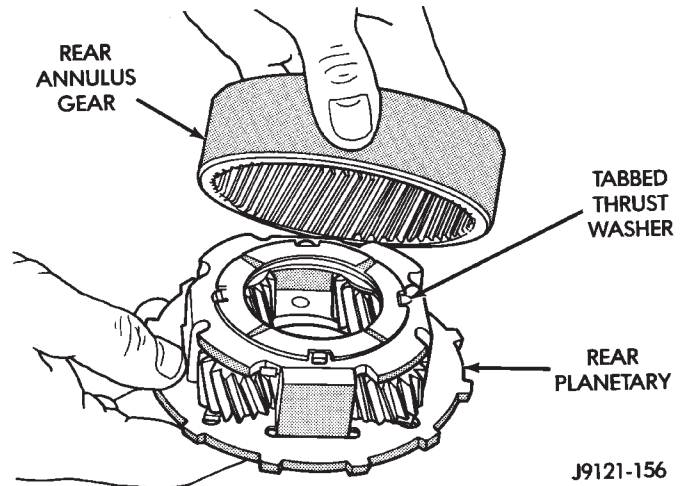

Fig. 85 Assembling Rear Annulus And Planetary Gear
(1) Lubricate output shaft and planetary components with transmission fluid. Use petroleum jelly to lubricate and hold thrust washers and plates in position.
(2) Assemble rear annulus gear and support if disassembled. Be sure support snap ring is seated and that shoulder-side of support faces rearward (Fig. 85).
(4) Install rear annulus over and onto rear planetary gear (Fig. 85).